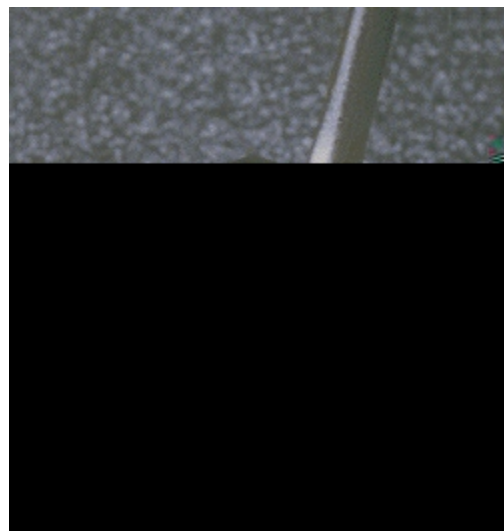

Fig. 2
4. To remove the hose, apply an 11/16" open end wrench to the hex portion of the fitting, and turn counter-clockwise while holding the inlet chamber(2) secure with a 15/16" open end wrench. (Fig. 2) Remove and inspect the o-ring found inside the hose fitting for any signs of decay. Discard if found.